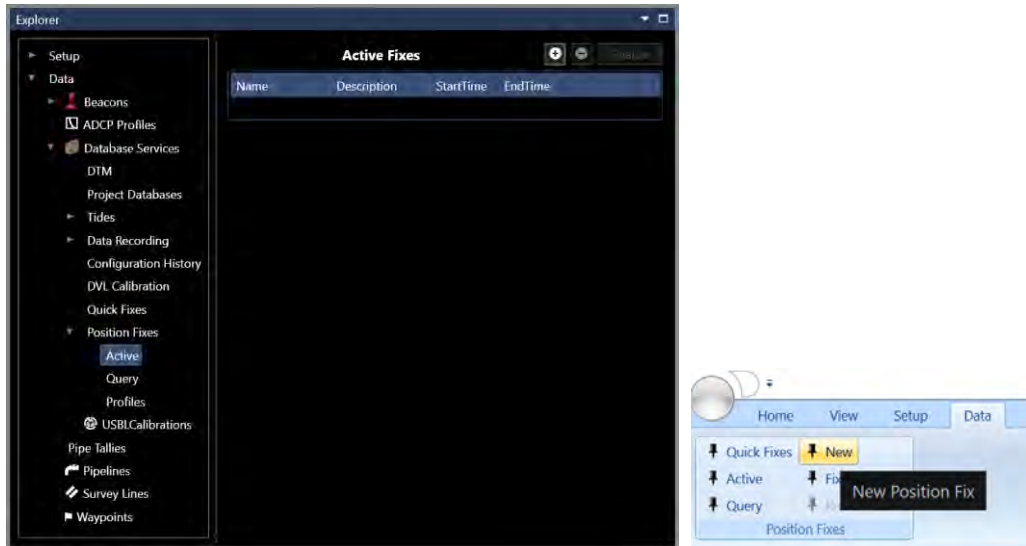

FIGURE 14-54 POSITION FIXES ACCESS
- Click the button (see Figure 14-54, left); or
- Click the **New** button on the **Data** ribbon (see Figure 14-54, right).
- Open the Explorer window and navigate the tree to select **Position Fixes/Active** under **Database Services** (see Figure 14-54)
1. Open the Explorer window and navigate the tree to select **Position Fixes** under **Database Services** (see Figure 14-54)